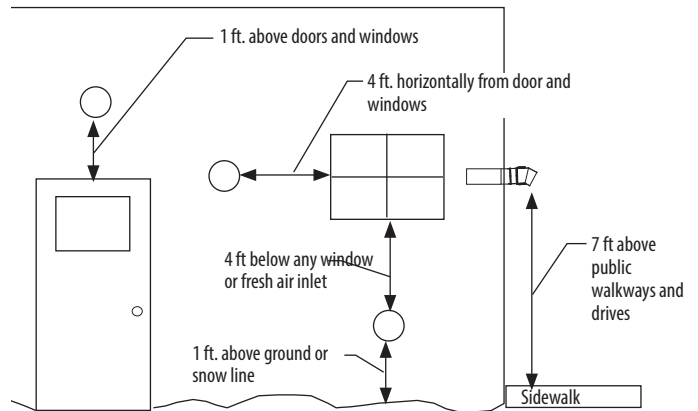

Figure 1 - Horizontal Termination Requirements
- When venting through a sidewall, terminate the system not less than 12" (.3m) above the ground and above the snow line in geographical areas where snow accumulates. The termination area must be kept clear of snow and ice at all times. See Figure 1.
- Terminate the system at least 7' (2.1m) above a public walkway or driveway, no less than 6' (1.8m) from the combustion air intake of any appliance or 3' (.9m) from any other building opening, gas utility meter, service regulator or the like. Less distance is permitted if specified in the appliance's installation instructions. It also shall terminate at least 3' (.9m) above any forced air inlet within 10' (3.1m) and shall terminate at least 4' (1.2m) below, 4' horizontally from, or 1' (.3m) above any door, window, or gravity air inlet into any building as provided in the National Fuel Gas Code ANSI Z223.1 and NFPA 54. See Figure 1. Proper judgment may require greater distances depending on the side of the equipment installed or to allow for snow drifting or falling from falling from overhead roofs or trees. The termination should be far enough away from trees, shrubs, or decorative items to prevent damage.